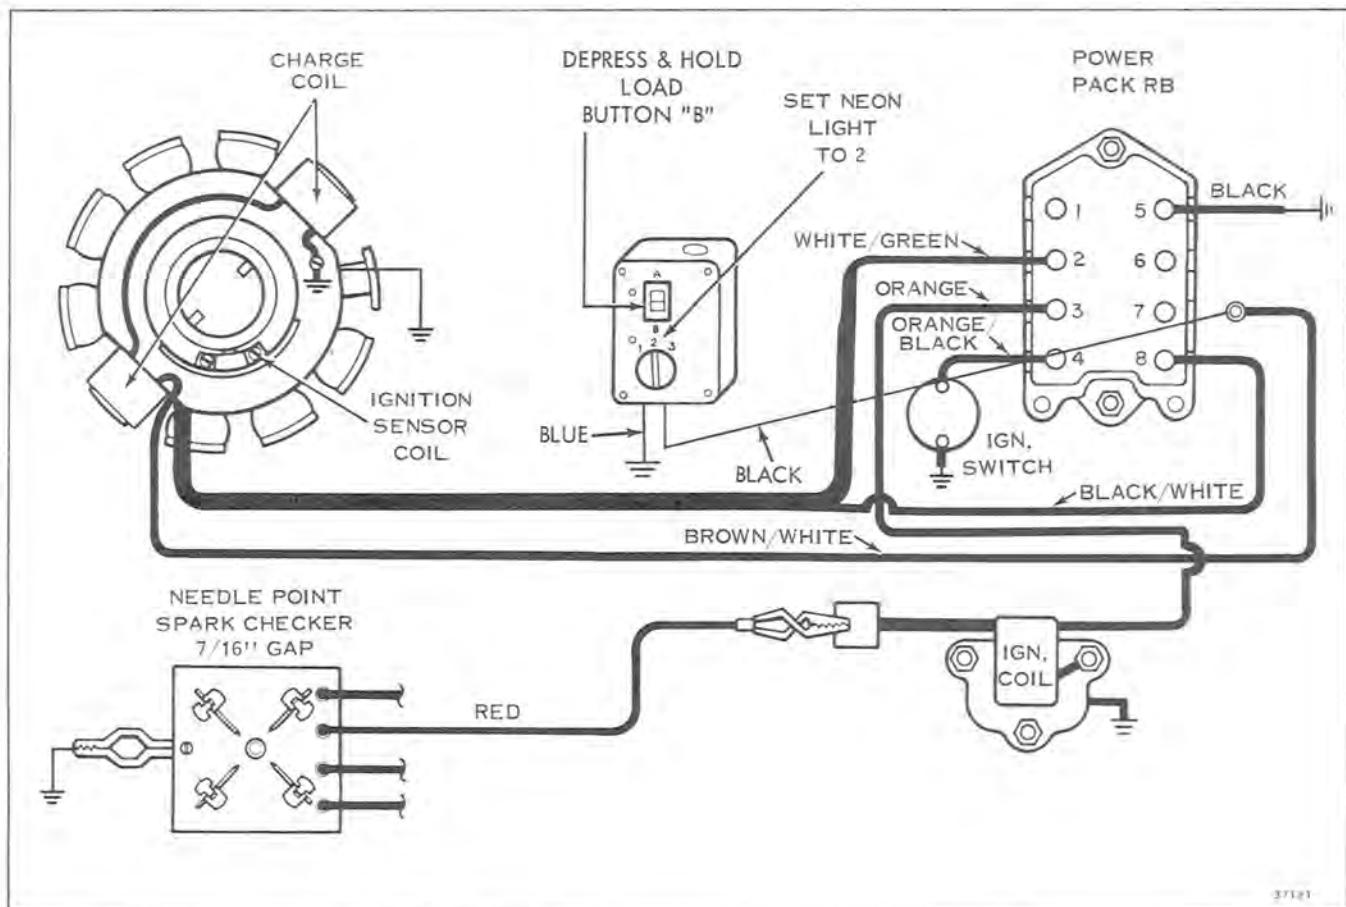

Figure 7-15
- B. Use Neon tester S80 or M80. Connect neon tester black lead to charge coil brown/white stripe lead and tester blue lead to engine ground. See Figure 7-15.
- E. Crank engine with starter (or recoil starter) and observe tester neon light. See Figure 7-15.